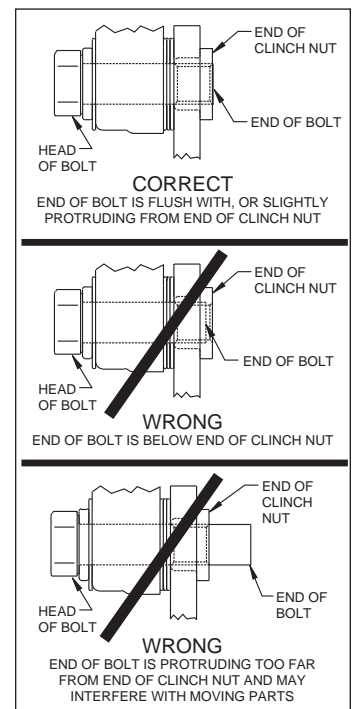

Figure 4. Clinch Nut Engagement Diagram
Assembly Instructions (numbers in parenthesis refer to the parts list, above and Figure 2): **CAUTION:** All mounting bolts must fully engage clinch nuts. Be sure to check that all bolts are either flush or protruding through flanged side of clinch nut after shimming, Figure 4.
- NOTE:** Please reference the caution statement at the beginning of the assembly instructions. Mount the caliper (15) onto the caliper mounting bracket (1) using bolts (17) and washers (16), as shown in Figure 2. Initially place two .035" thick shims (18) on each bolt between the caliper and the bracket, Photo 8. Temporarily tighten the mounting bolts and view the rotor (8) through the top opening of the caliper. The rotor should be centered in the caliper, Photo 9. If not, adjust by adding or subtracting shims between the bracket and the caliper. Always use the same amount of shims on each of the two mounting bolts. **NOTE:** The end of each bolt must be flush with or slightly protruding from the head of the clinch nut, as shown in Figure 4. If necessary place spare shims between washer (16) and caliper mounting ear to achieve the proper clinch nut engagement. Once the caliper alignment and clinch nut engagement are correct, remove the bolts one at a time, apply red *Loctite*® 271 to bolt threads, and torque to 40 ft-lb.